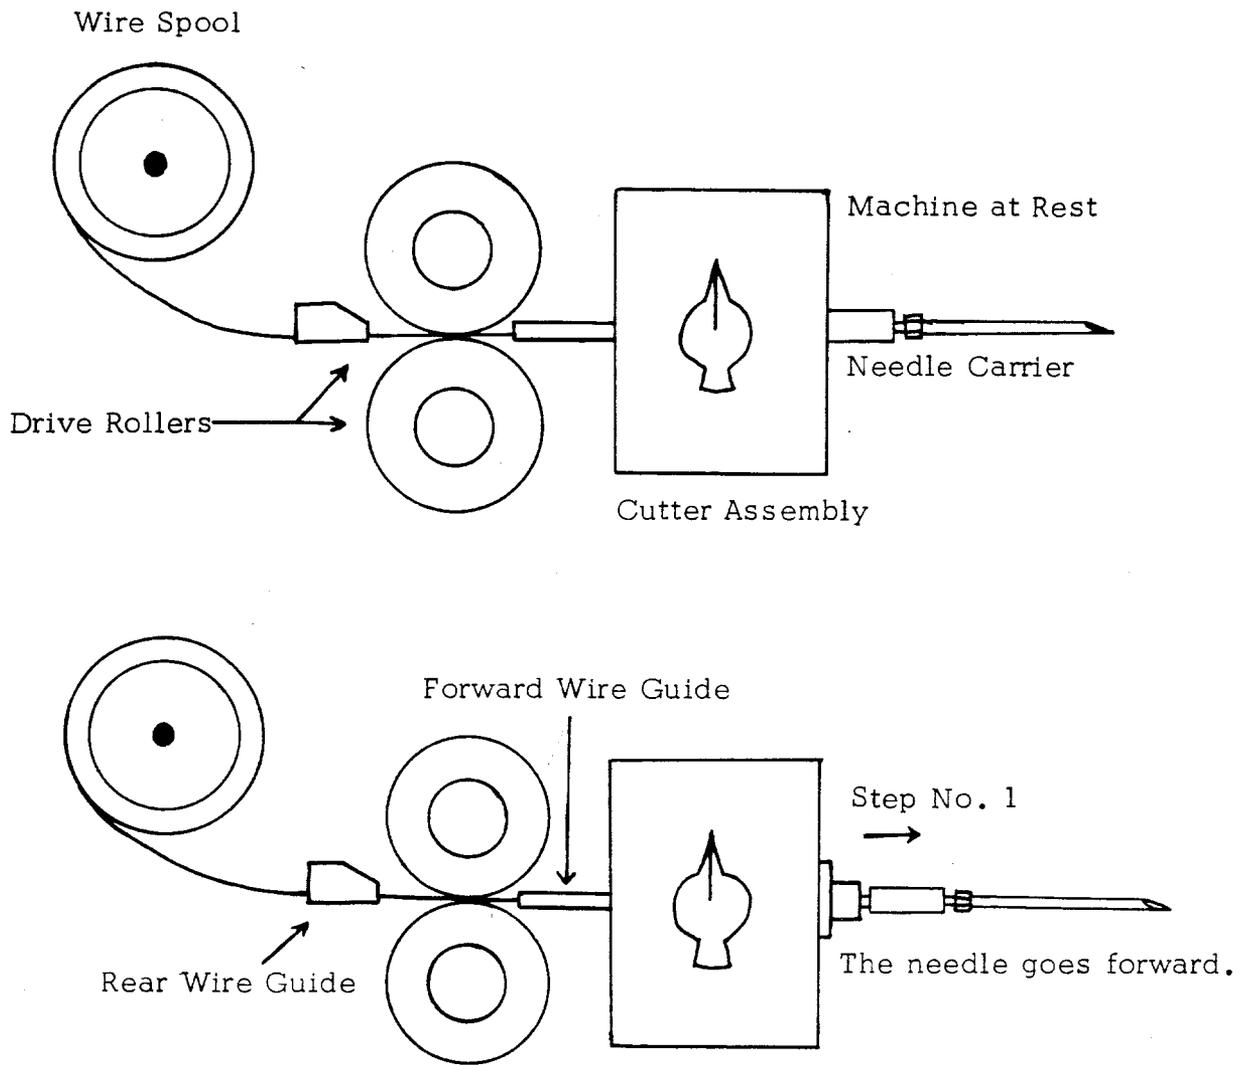

Figure 2a. The seven steps in one machine cycle (Step 1).
4. Turn the program interrupt switch to the "on" position. By actuating the touch switch the machine can be run through the seven steps that occur during a machine cycle one step at a time. These seven steps are diagrammed in Figures 2a, 2b and 2c. In step No. 1 the needle carrier travels forward. Actuate the touch switch again and the drive rollers will push the wire through the cutter, expelling the tag from the end of the needle. In this position the needle and the wire are fully extended. Inspect the needle point using the jeweler's loupe. The end of the wire should be visible but should not extend beyond the tip of the needle. The insert on Figure 2b shows the proper position of the wire in relationship to the needle at the end of step No. 2. If the position of the wire is not satisfactory it can be changed using the control switches next to the program interrupt switch. The first switch is marked in tens and the second switch in units. One unit is equal to 1/2 of a tag length so an increase or decrease in the "tens" switch will move the wire 5 tag lengths. If one wants to shorten the length of the wire by 1 tag length reduce the units count by two. For instance if it was set on 48 reduce it to 46. If the control number is reduced the excess wire will be cut off and expelled as a long tag on the next cycle. But if the count has been increased the machine will have to be cycled once for every two numbers of increase in the control number. With the proper tag implantation depth now set the last step is to adjust the needle penetration depth.